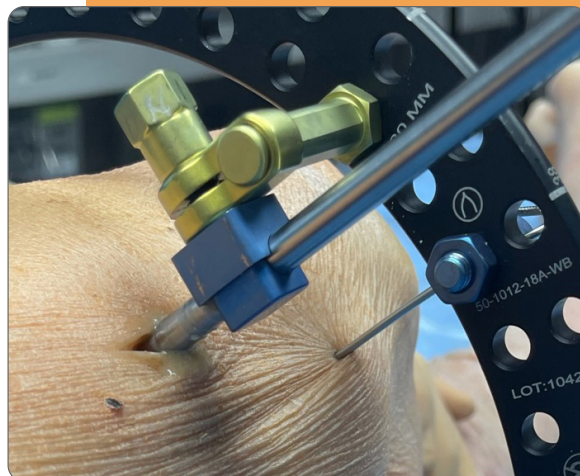

Fig. 19 - Insert 2nd Half Pin
- 12 Following the same method described in **Step 11**, insert a second Half Pin divergent to the first Half Pin (Fig. 19).